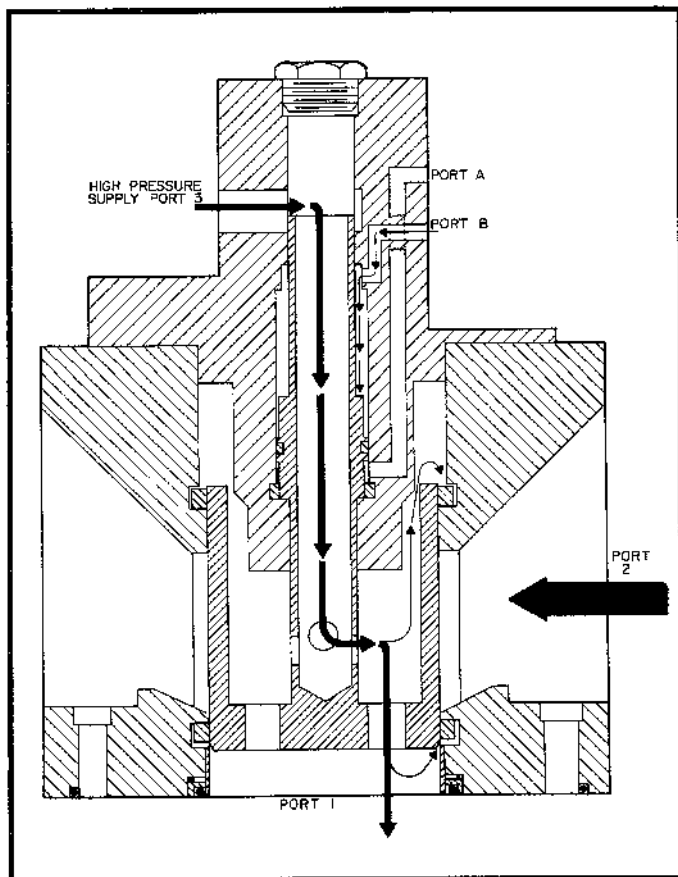

Figure 3. Diagram of Oilgear "VSA" Cylinder Prefill Unit in CLOSED position (508737D).
2. Cylinder Pressing. See Figure 3. Pressure at control Port "B" extends the operator ram (with the prefill plunger) into the dashpot. The prefill plunger blocks Tank Port 2. High Pressure Supply Port 3 is connected through the hollow operator ram to Cylinder Port 1 and provides for high pressure advance and full tonnage pressing.